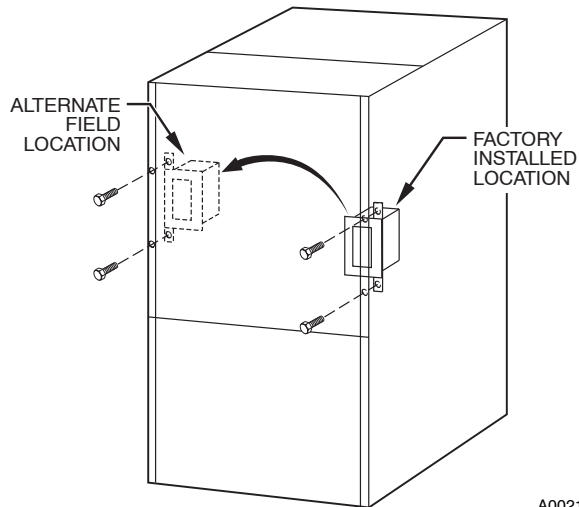

Fig. 32 - J-Box Relocation
1. Remove two screws holding auxiliary J-box. (See Fig. 32.)